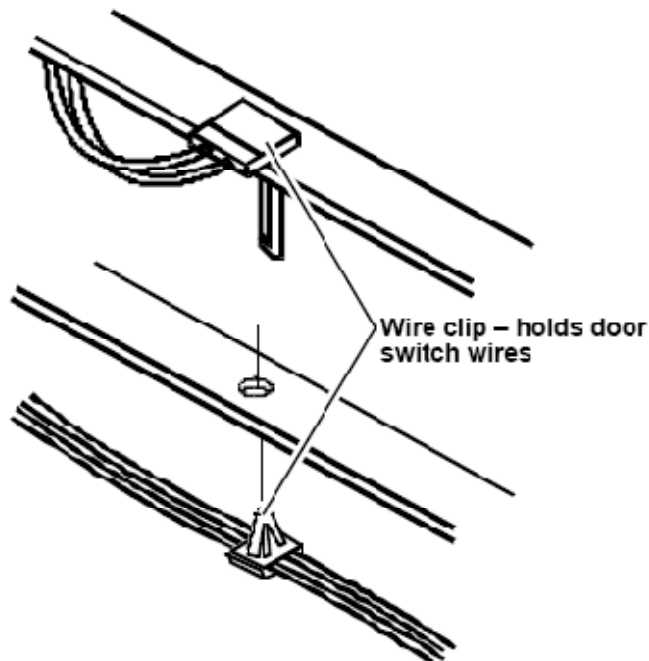

FIGURE 10
- b. Wire clips holding the door switch wires must be anchored in slot in top of front panel and along top edge of side panel. See *Figure 10*.